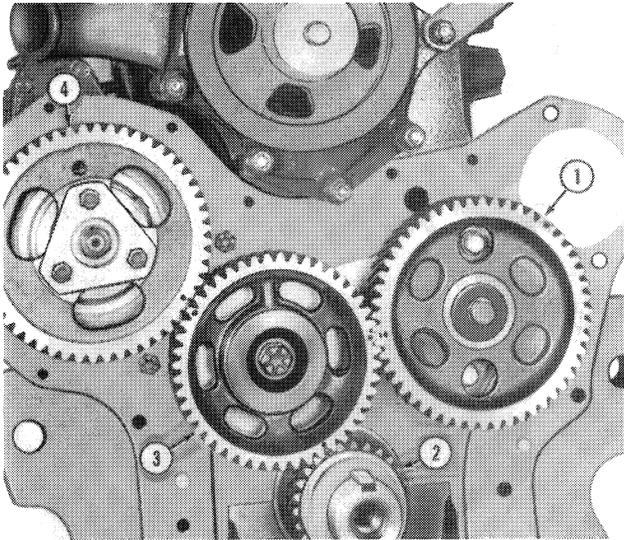

Figure 28
4. Assemble the fuel injection pump to the engine front plate. Check No. 1 piston is at T.D.C. and install the injection pump drive gear with the timing mark aligned with that of the camshaft drive gear, Figure 28.